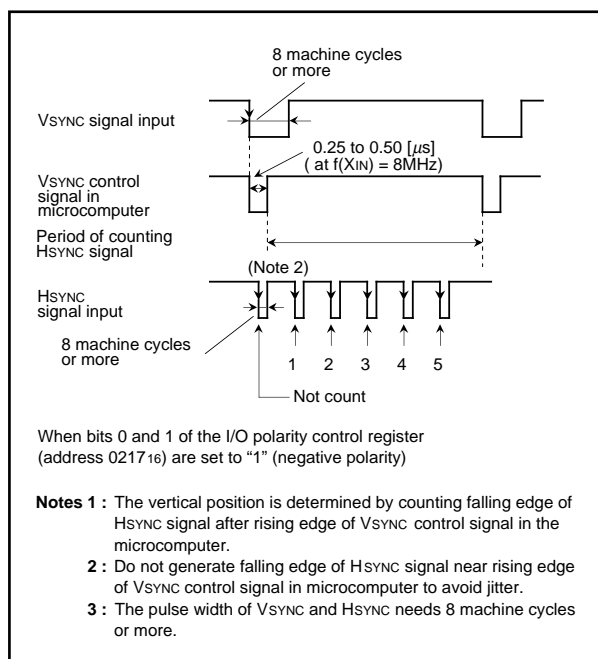

**Fig. 59. Display Position**
- ① When the display position is overlapped with another block (Figure 59, (b)), a lower block number (1 to 12) is displayed on the front.
- ② When another block display position appears while one block is displayed (Figure 59 (c)), the block with a larger set value as the vertical display start position is displayed. However, do not display block with the dot size of 2TC X 2H or 3TC X 3H during display period ( \* ) of another block.